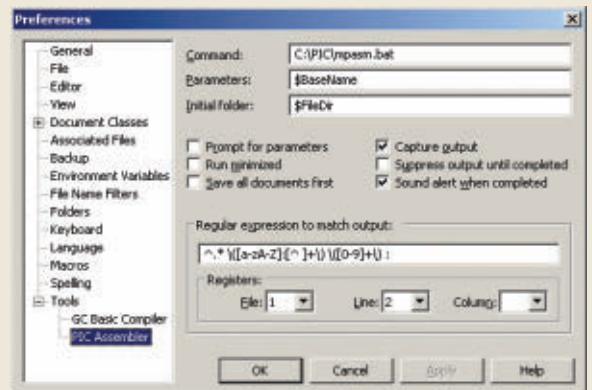
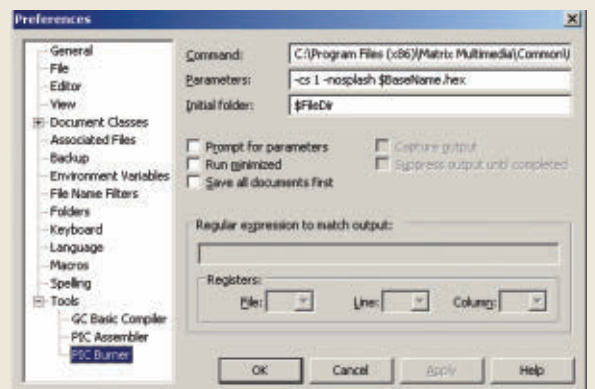

Figure 4: The tool entry box for the assembler.
Figure 5: The tool entry box for my burner. Yours may differ somewhat.
You will follow similar steps to add the assembler tool. In this case, TextPad will invoke the MPASM.BAT batch file mentioned earlier. Remember, I've included this file in the article downloads for your convenience. The entry box for this in TextPad is shown in **Figure 4**. Next, install a tool to bring up the burner. Naturally, this will be specific to whatever hardware you're using. Just so you can anticipate the sort of thing you'll be doing, there's a screenshot of my system in **Figure 5**.
We can then bend the legs down as shown in Figure 4, thus allowing the piezo to be used on a breadboard without covering holes unnecessarily (as shown in Figure 5). Since we will be bending these legs like this, let's draw the part as showing the legs coming out the side so that it will appear in Fritzing the same as on the real breadboard.
■ FIGURE 4. Piezos with legs bent.
■ FIGURE 5. Piezo on a breadboard.